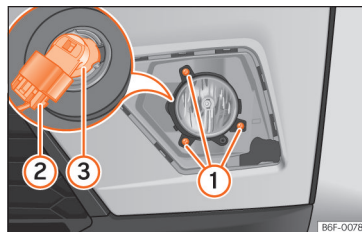

Fig. 58 Front fog light: remove the bulb holder
- Remove the 3 screws »» Fig. 58 ① and remove the fog light.
- Remove the bulb connector ②.
- Turn the bulb holder ③ to the left and pull.